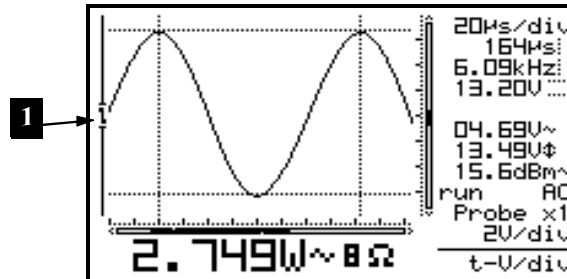

Fig 36
- Changing the timebase or sensitivity switches the auto range mode immediately off. **(Fig 36)**